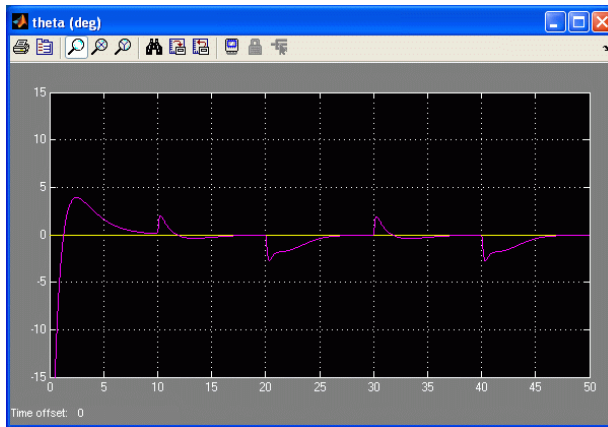

Figure 28: Simulated pitch response under a desired yaw reference step using LQR+I.
14. Run the simulation and the responses shown in figures 28, 29, and 30 should be obtained. The yaw voltage saturates the back amplifier at -15 V